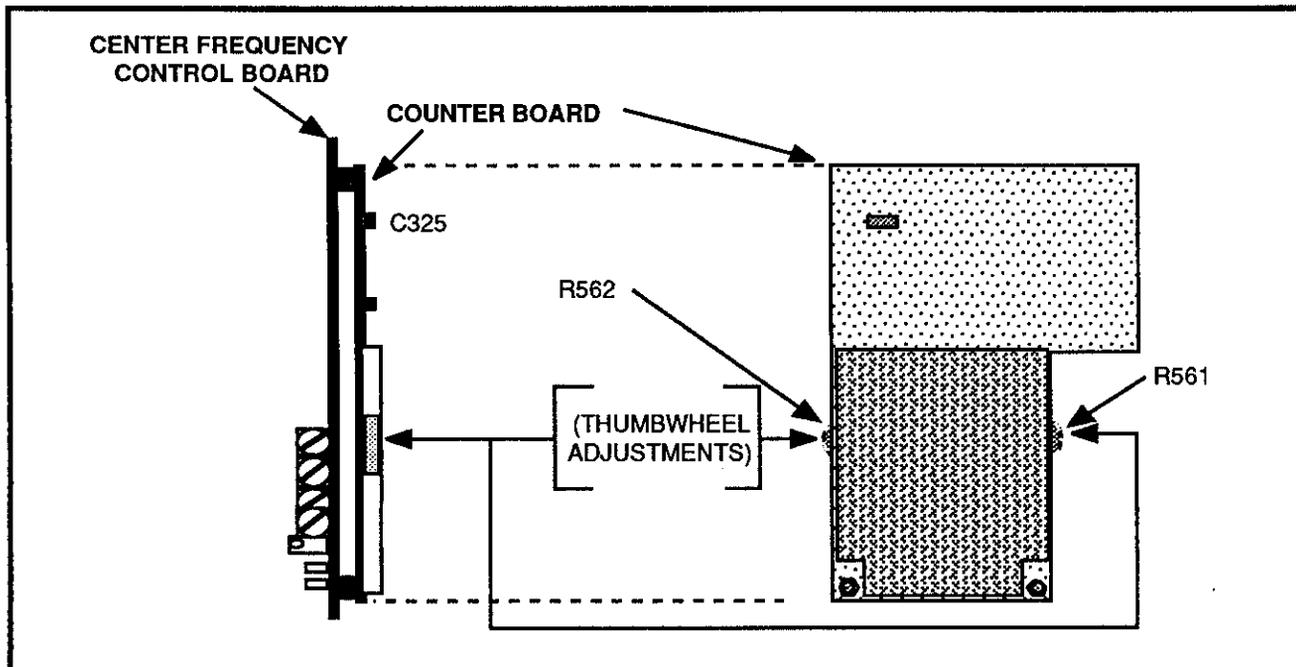

Figure 4-12. Counter Amplifier board adjustments.
- (1) Test Oscilloscope
c. Monitor the negative plate of C325 (Figure 4-12) with the test oscilloscope.
d. Adjust R562 (Figure 4-12) for $0.7 V_{pp}$ of the beat note.